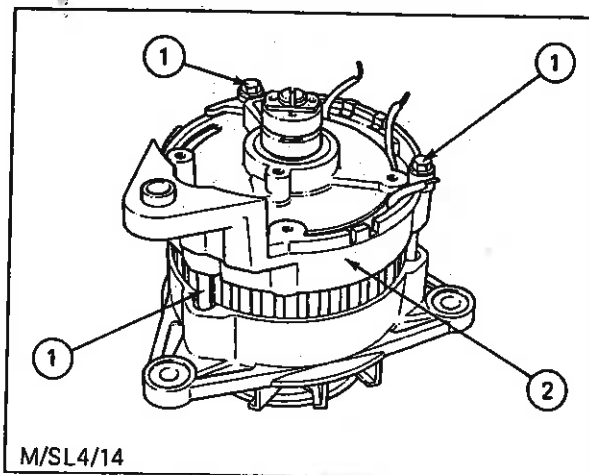

Fig. 21 - Removing Slip Ring End Bracket
2. Remove the three 'through' bolts (1) and lift off the slip ring end bracket (2) - see Fig. 21. If the end bracket proves difficult to move, use a soft face mallet to tap upwards beneath each bolt housing in turn.